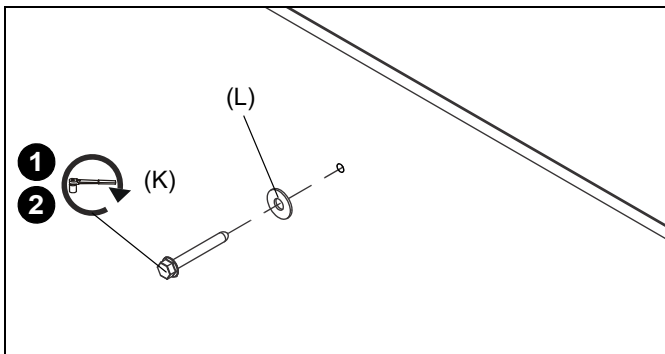

Figure 28
1. Use one 5/16" x 2-1/2" hex flange head lag bolt (K) and one 5/16" washer (L) through product and into pilot hole. (See Figure 28)